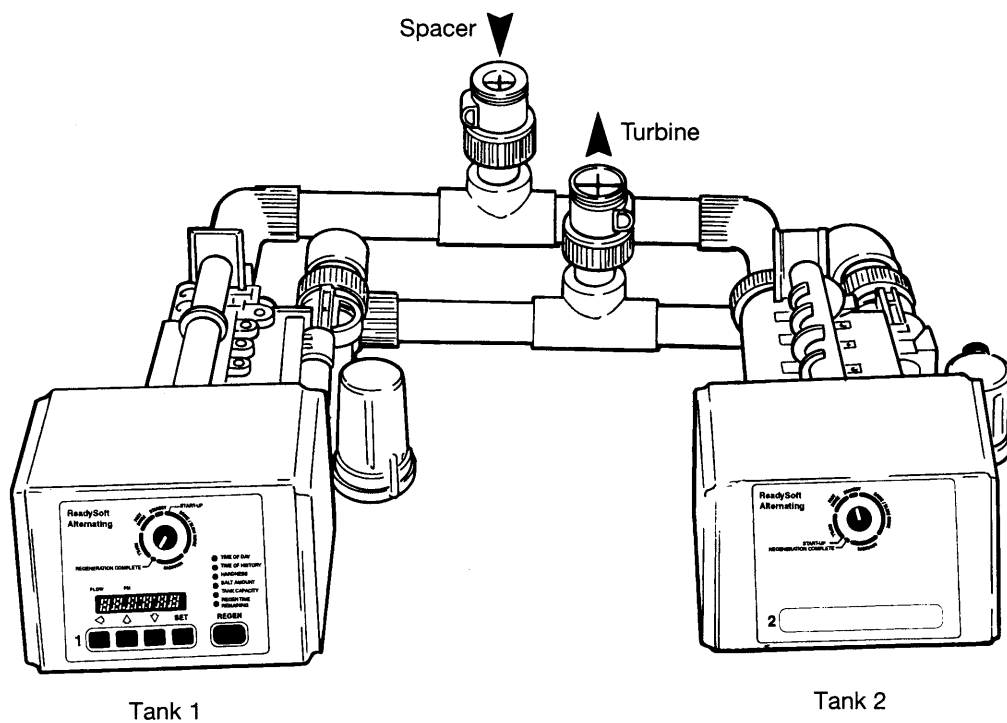

Figure 1 ReadySoft Twin Alternating System
- Connect the control to the wall transformer cable. The power connection is located on the underside of the main control (tank 1) on the left side (refer to Figure 1). Insert the barrel style connector into the power plug.